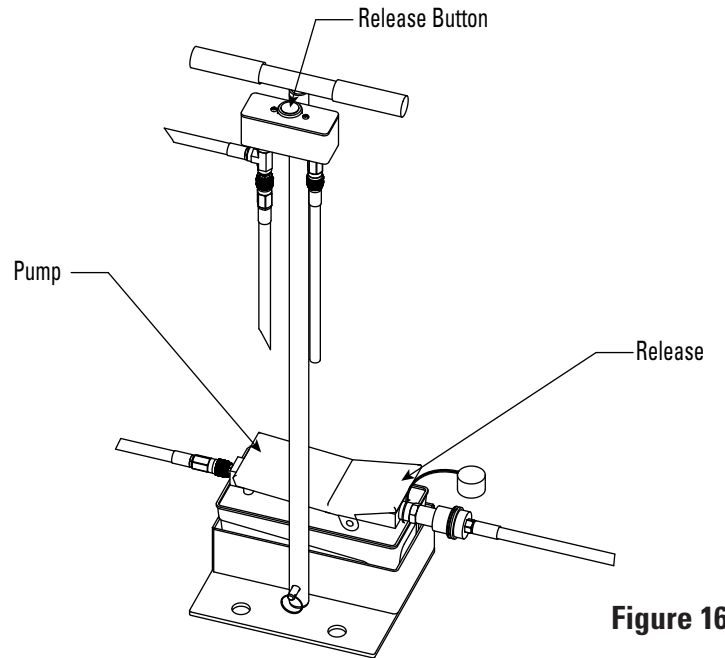

Figure 16
6. Disengage the Safety Latch by pressing the Release Button on the Air Valve on the Pump Stand. And lower the lift completely by pressing the release portion on the pedal of the Lift Pump (see Figure 16).